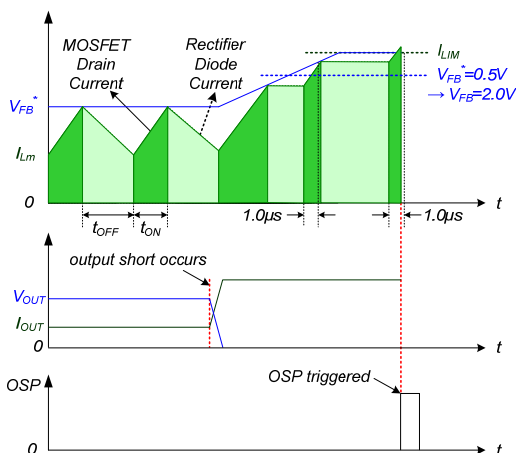

Figure 22. Output-Short Protection
4.3. Output-Short Protection (OSP): If the output is shorted, steep current with extremely high di/dt can flow through the SenseFET during the minimum turn-on time. Such a steep current brings high-voltage stress on the drain of the SenseFET when turned off. OSP protects the device from this abnormal condition. It is comprised of detecting V_{FB} and SenseFET turn-on time. When the V_{FB} is higher than 2.0V and the SenseFET turn-on time is lower than 1.0 μ s, this condition is recognized as an abnormal error and PWM switching shuts down until V_{CC} reaches V_{START} again. An abnormal condition output short is shown in Figure 22.